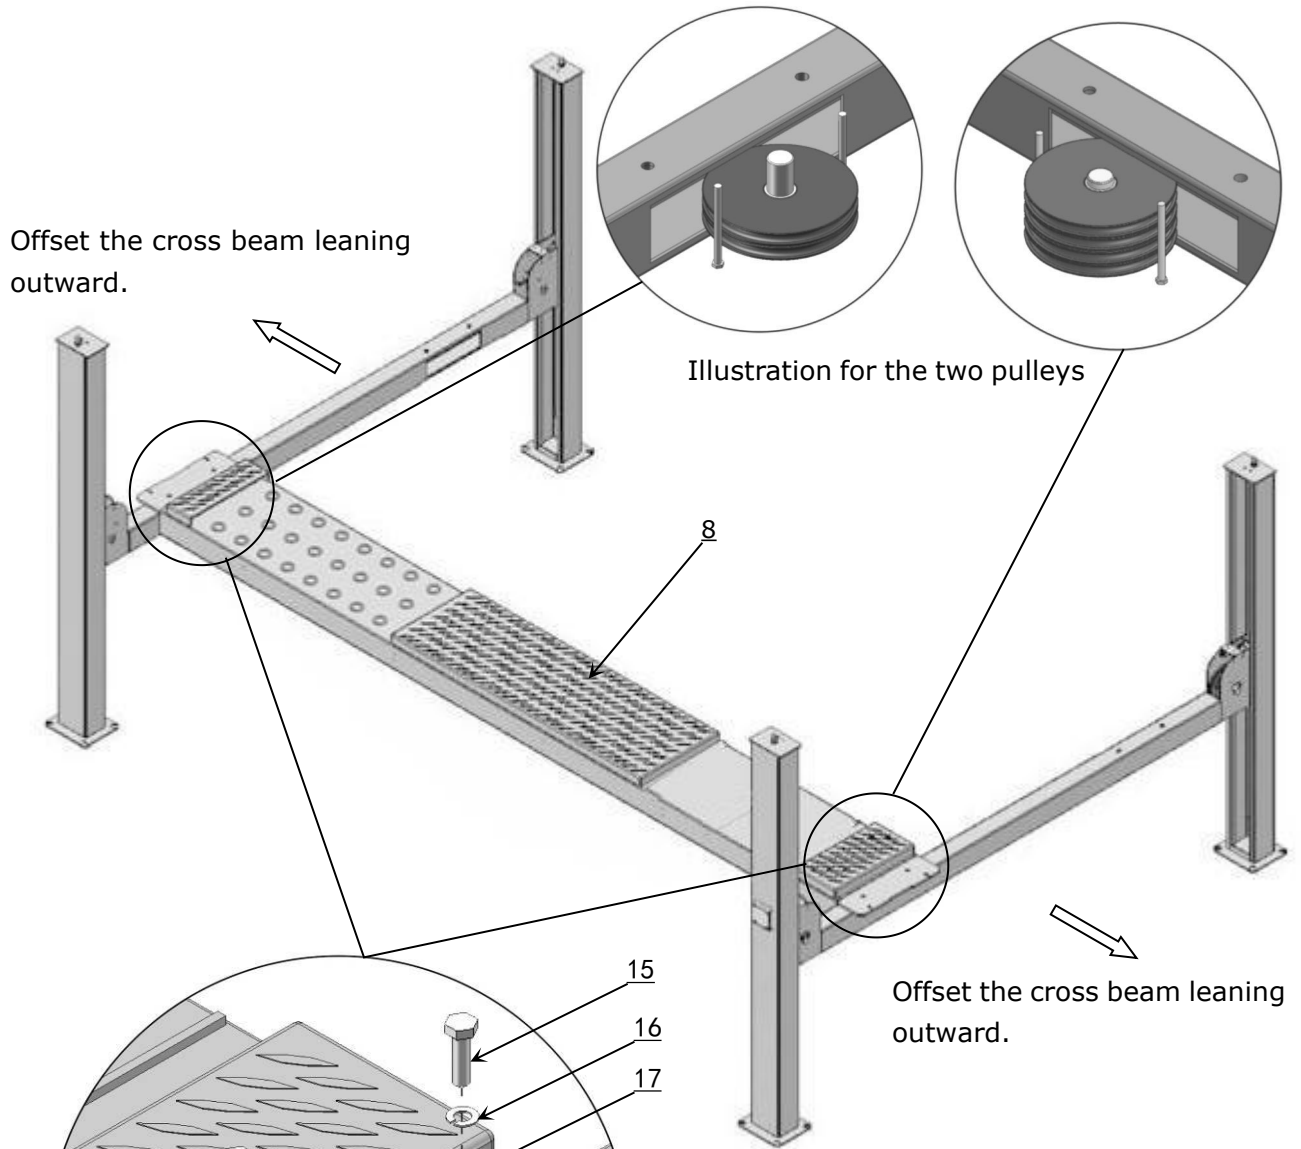

Fig.20
1. Put the power side platform upon the cross beams by forklift or manual, offset the cross beams leaning outward till the pulleys of platform can be set into the cross beams (See Fig.20), align the holes of power side platform and cross beams , then tighten with bolts. (See Fig.21) .